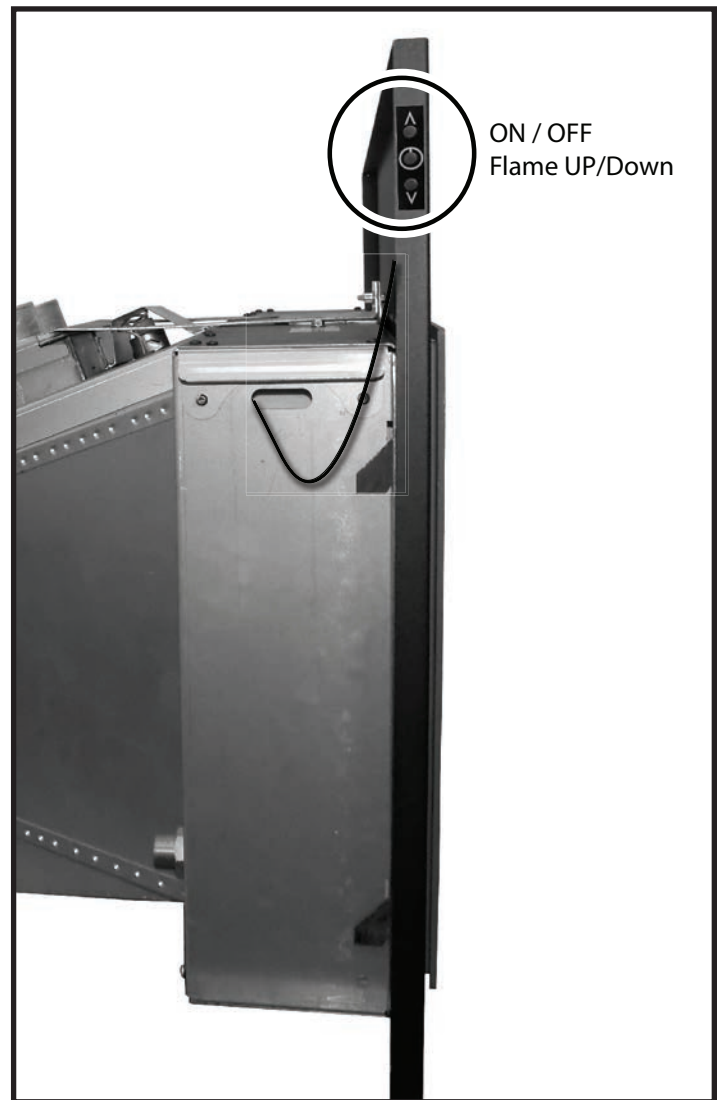

Figure 92: On Off switch location for Maxitrol units.
4. Install the surround backing plate and surround (Figure 92).